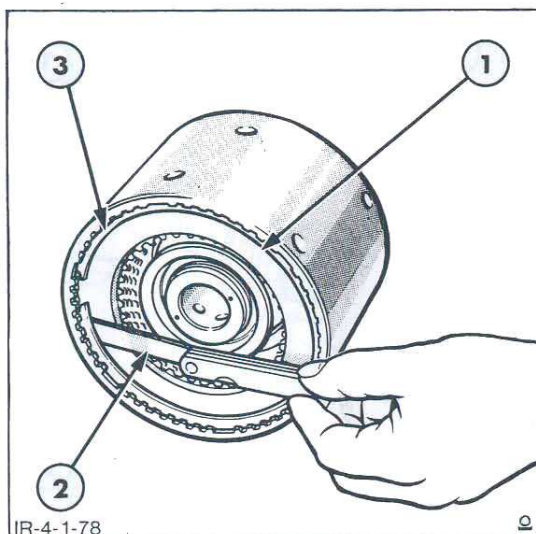

Figure 89
3. Inspect the front shaft sealing rings, Figure 89, for cracks and wear, and the sealing ring grooves for wear. Install new parts as required, during assembly. Check the shaft oil passages to be sure they are clean.
- With the rear clutch pack assembly as previously described, use a feeler gauge to check the clearance between the clutch pressure plate and the snap ring, Figure 89, while holding the plate against the clutch disc.